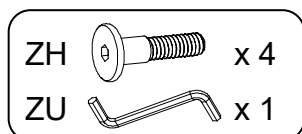

Fig. 5b
5. NOTE: When attaching the Footboard (B) to the Pedestal/Base assembly attach it at the end of the Base with the leveler behind the crosspiece.
There are two options to attach the Footboard (B) to the Pedestal Assembly. Option a) Release the two drawers (J) at the end of the assembly as shown in Fig. 5a. Open the Drawers (J) until the back edge of the drawer is even with the front of the Pedestal. Reach under the attached deckboard from the backside of the pedestal and use 5mm Hex Wrench (ZU) to insert Bolts (ZH) into the Footboard (B). Push the drawers closed. Option b) remove the two end drawers (K) completely. Use 5mm Hex Wrench (ZU) to insert the bolts into the Footboard and reinstall the drawers. See Fig. 5b, 5c.